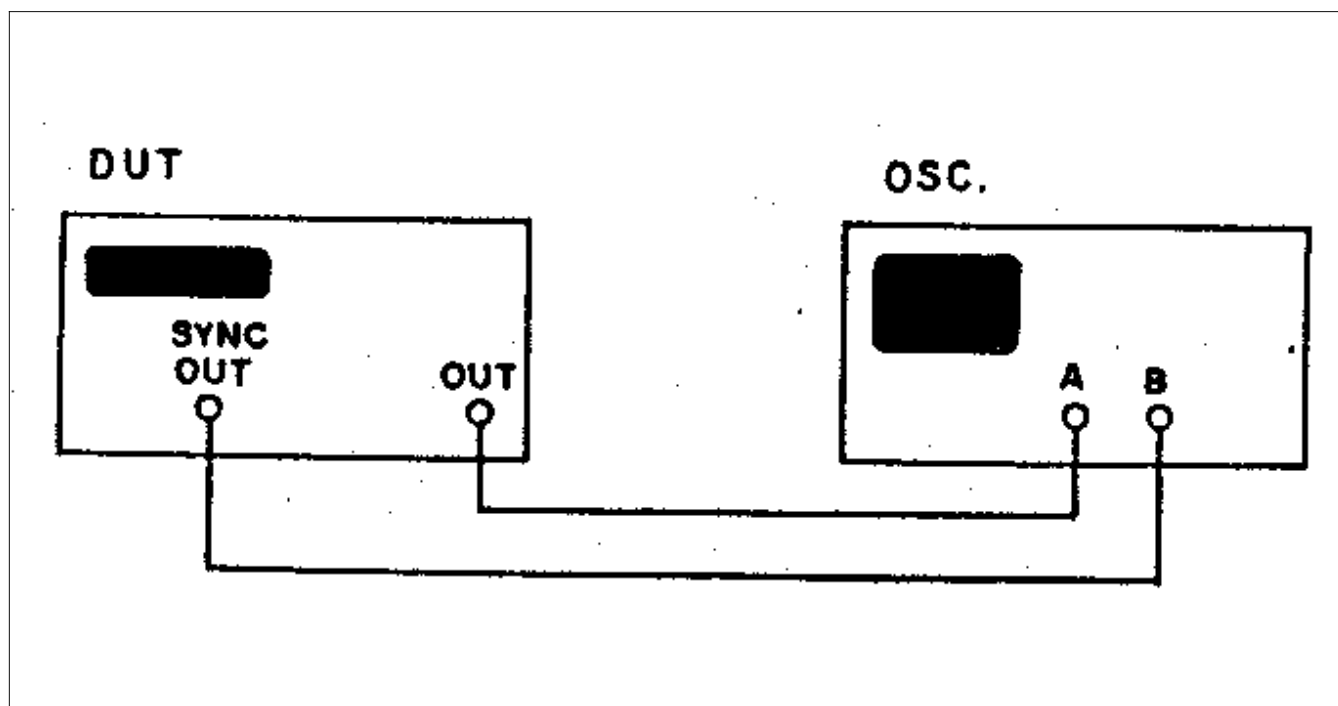

Figure 7-3. System Delays Adjustment.
1. Connect the test instruments as described in Figure 7-3.